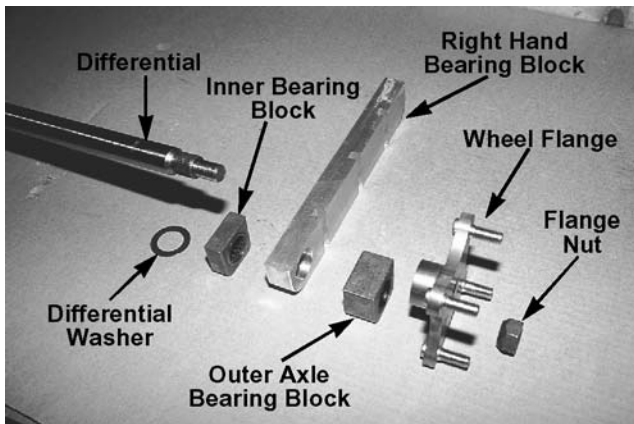

Figure 5-81.
30. Remove the differential washer. See Figure 5-81.